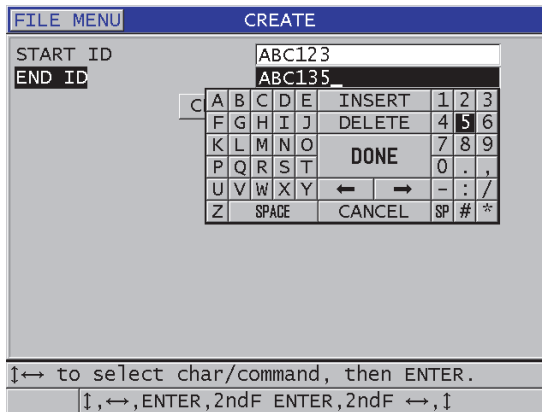

Figure 11-5 Selecting the ID range for the sequential file type
3. In the second page of the **CREATE** screen (see Figure 11-5 on page 186):